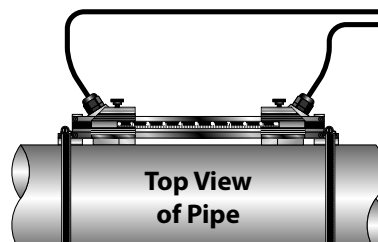

Figure 27: Mounting track installation
4. Place the first transducer in between the mounting rails near the zero point on the scale. Slide the clamp over the transducer. Adjust the clamp and transducer so the notch in the clamp aligns with the zero on the scale. See *Figure 27*.